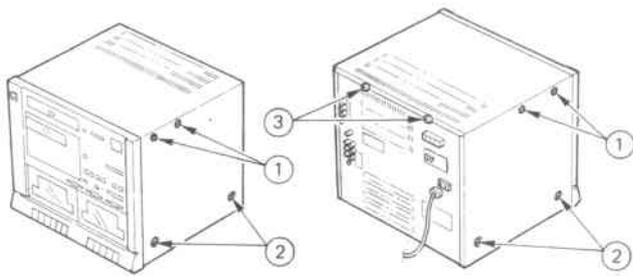

Fig. 1
### 1. Removing the Transportation Fixing Screws (Fig.1)
- 1) Remove 4 screws (1) from both left and righthand side. (Fig. 1).
### 2. Removing the Top Cover (Fig.1)